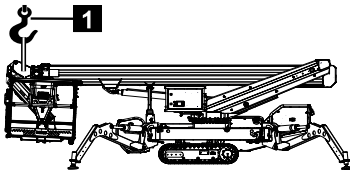

Fig. 254
2. Secure the telescopic boom using a crane (Fig.254/1).